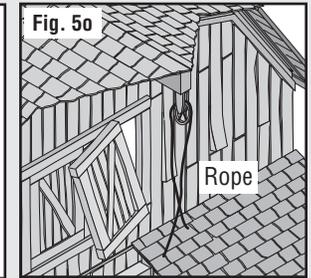

Fig. 5o
- Glue Rope to Pulley and arrange as desired (**Fig. 5o**). **IDEAS:** Have it dangle loose or tuck it in behind Hayloft Door. Coat with white glue to make rigid.